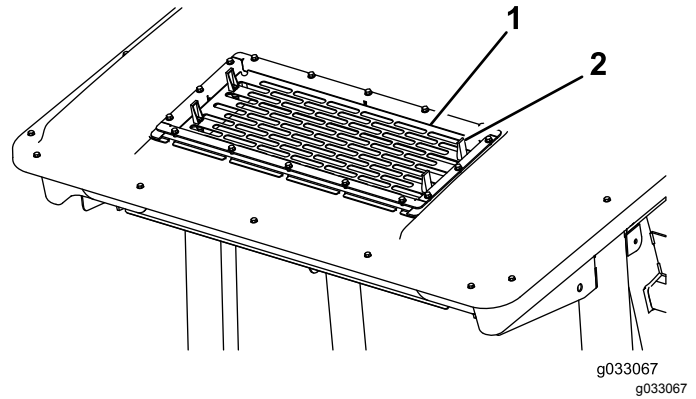

Figure 53
2. Lift the 4 tabs on the air-conditioning screen (Figure 53) and remove the screen from the top of the cab.